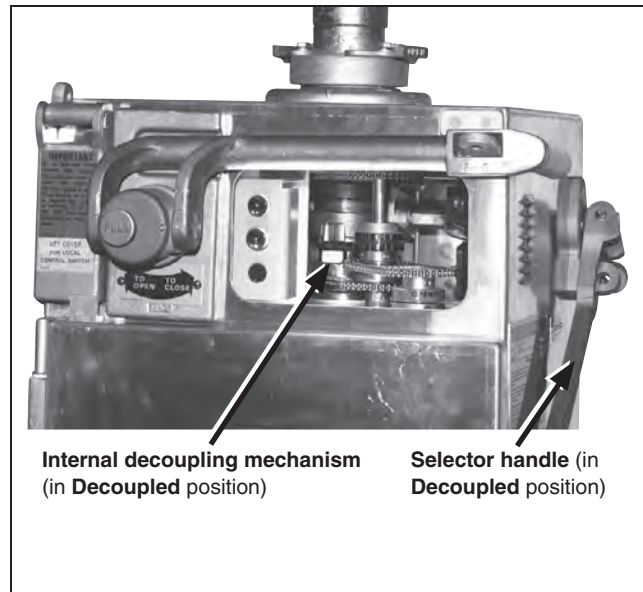
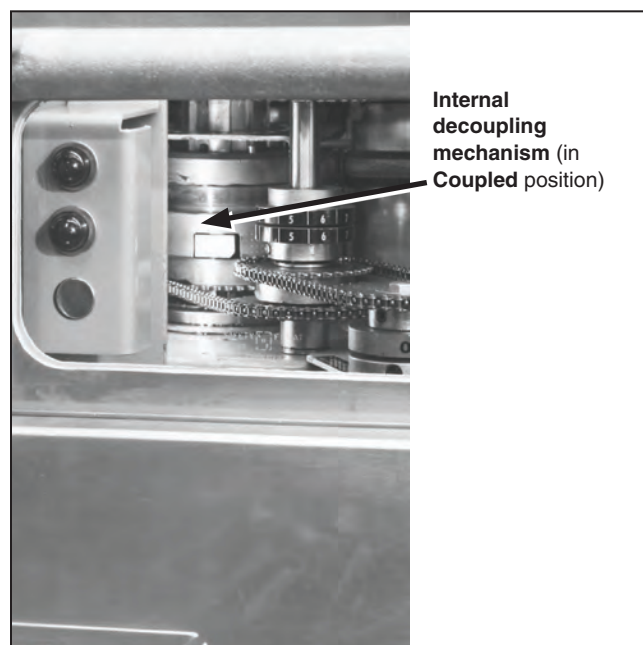

Figure 67. View of decoupled switch operator through observation window.
Figure 68. View of coupled switch operator through observation window.
- STEP 1.** Verify the disconnect is in the **Coupled** position by looking at the internal decoupling mechanism inside the Mark VI CS-1A Switch Operator. See Figure 67 and Figure 68. If the switch operator is in the **Decoupled** position, manually operate the switch operator to bring it **Open** or **Closed**). See Figure 68. For instructions on coupling the switch operator, refer to “Using the Selector Handle (Coupling and Decoupling)” on page 31.